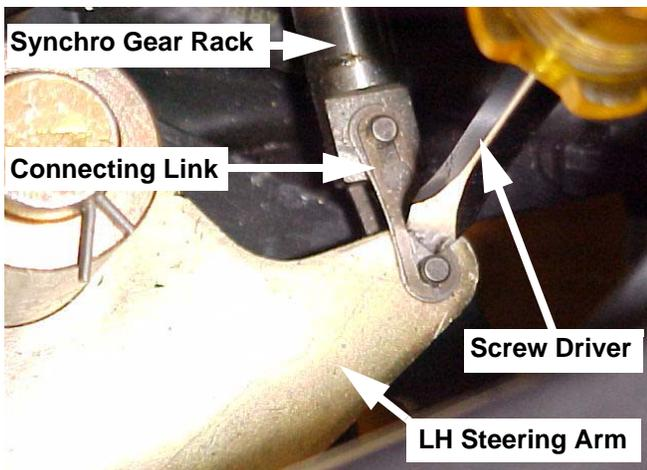

FIGURE 5
9. Turn the steering wheel to the left to gain access to the connecting link. Use a flat bladed screwdriver to remove the connecting link from the LH steering arm and synchro gear rack. See Figure 5